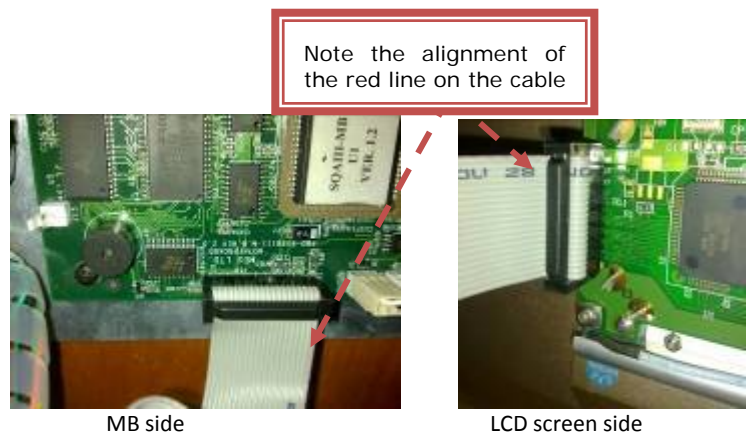
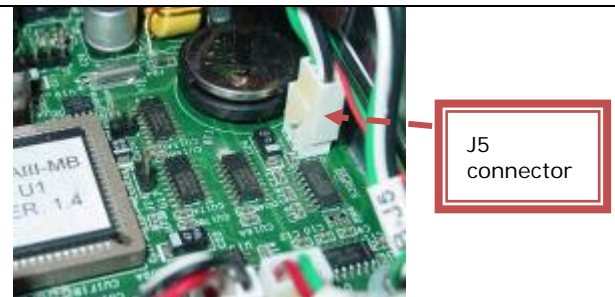

Figure 1: Verify the flat cable is properly connected
Figure 2: J5 connector on the main board
3. Verify that the harness that connects the user screen and the main board is in the correct position and is properly connected (see Figure 1).
2. Tighten the harness connector at location J5 on the main board (see Figure 2).
2. Remove the 4 screws on the rear panel using a Philips screw driver #2 (Fig.1) and open the SQA (Fig.2)